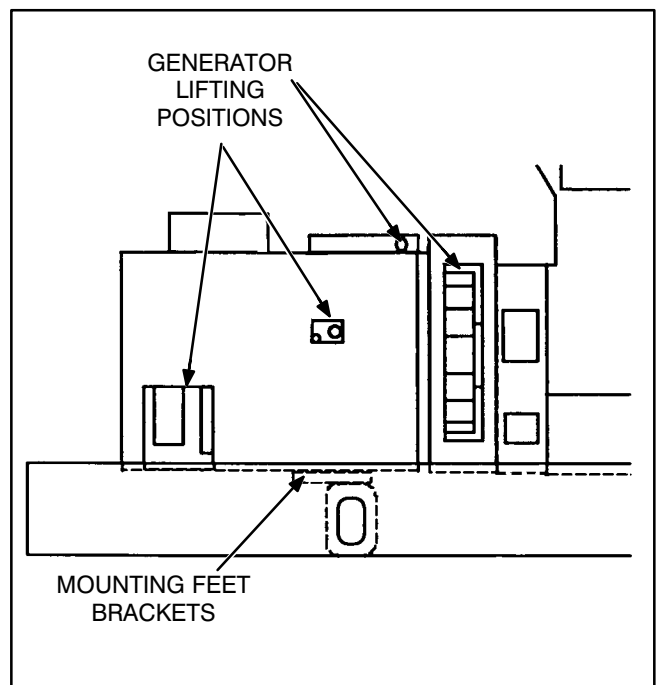

FIGURE 6-10. HC4-7 GENERATOR LIFTING POSITIONS
- Attach cables of lifting device to generator lifting points (Figures 6-10 or 6-11).
30. Attach cables of lifting device to generator lifting points (Figures 6-10 or 6-11).